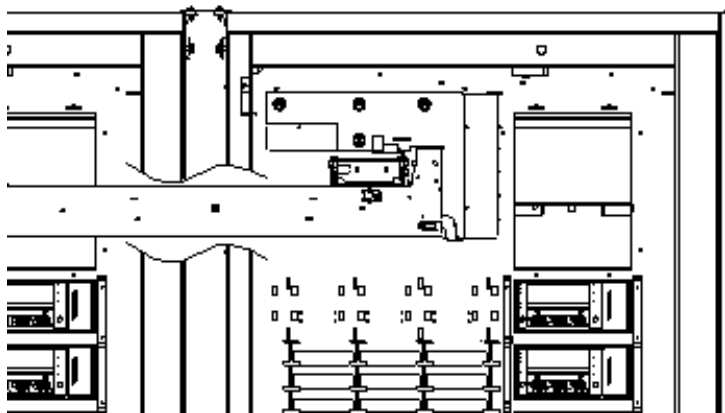

Figure 15: PTM installed
1. Holding the PTM right side up, slide it through the right library pass through cut-out and into the left library (see Figure 15 on page 38).
6. Attach the pass through cable cover with four 10-32 x 5/8 screws and washers to the bin wall to cover the cable and cable hole (see Figure 15). Tighten screws to 30 ± 3 in lb.